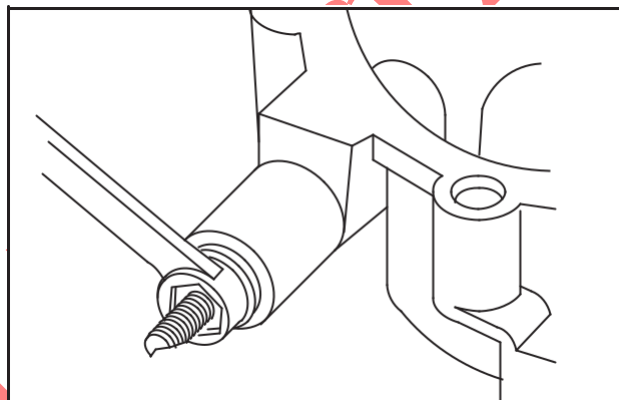

Fig. 11 - Remove Governor Shaft Bushing
- a. Tighten nut until bushing is removed, Fig. 11.